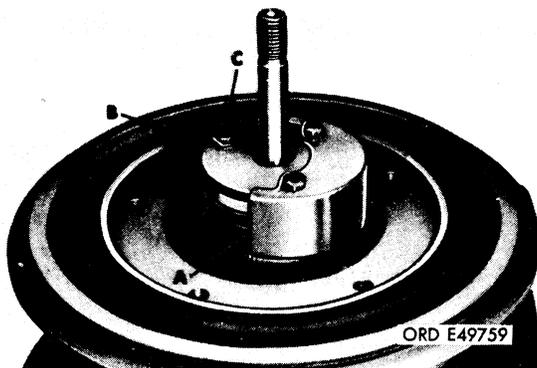

FIGURE 50. INSTALLING OIL DEFLECTOR, LOCK PLATE, AND CAP SCREWS - TURBOCHARGERS 10912638 AND 53591-C-139552.
c. Refer to figure 50.
(1) Position oil deflector (A) over cut-